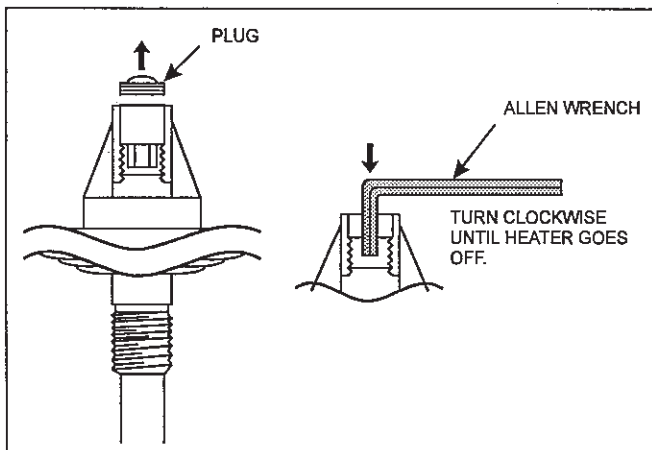

Figure 18. Pressure switch adjustment.
5. Use a 7/32 inch (5.55 mm) Allen wrench to turn the adjustment screw very slowly clockwise until the heater goes off (see Figure 18).
The automatic flow control valve maintains the proper flow through the heater at rates up to approximately 125 Gallons Per Minute (GPM) (474 liters per minute [LPM]). If the system filter-flow rate is higher than approximately 125 GPM (474 LPM), install a manual bypass valve (see Figure 18), then perform a temperature rise test (see Section 2G-8) and adjust the flow with the bypass valve until the proper temperature rise is obtained.